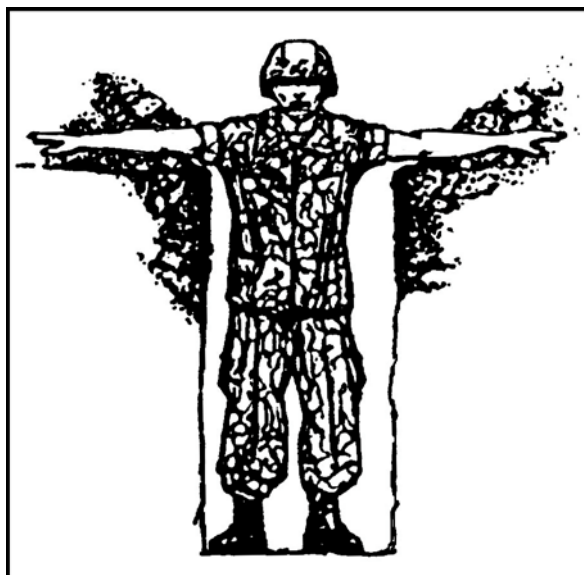

Figure 3. Fighting position armpit deep.
- (1) Make the foxhole armpit deep (Figure 3).